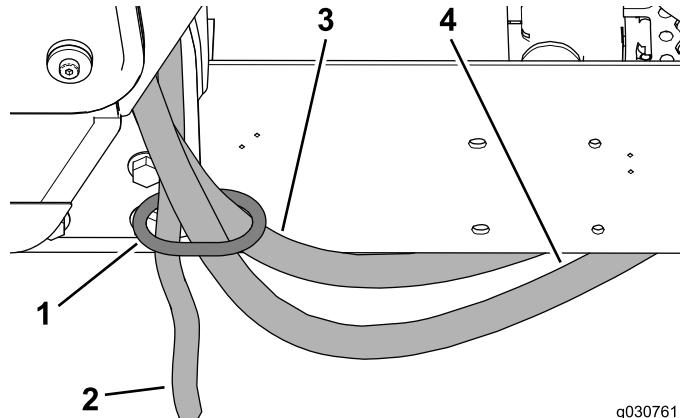

Figure 38
4. Route the hoses for the heater and the drain hose through the hose ring on the rear cab mount (Figure 38).